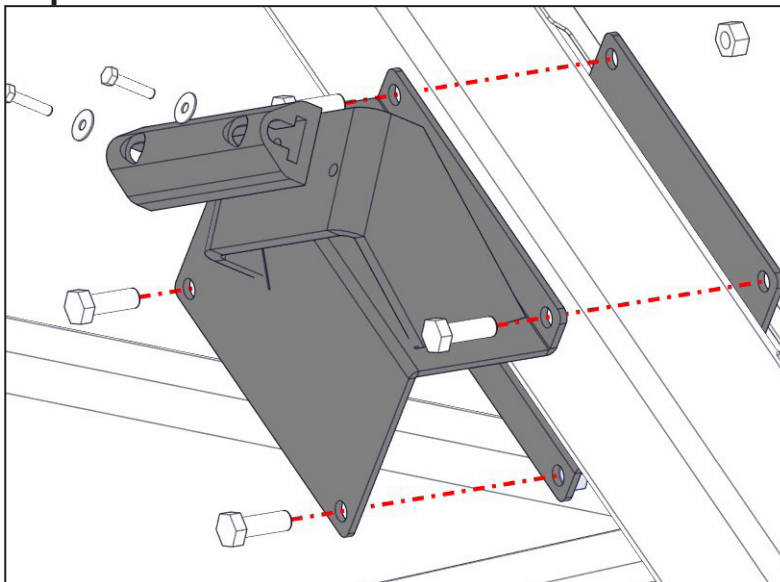

Fig. 56
- Orientate the top auger to the same position shown in Fig. 56. The spool should be propped up approximately a 1-1/2" as shown.